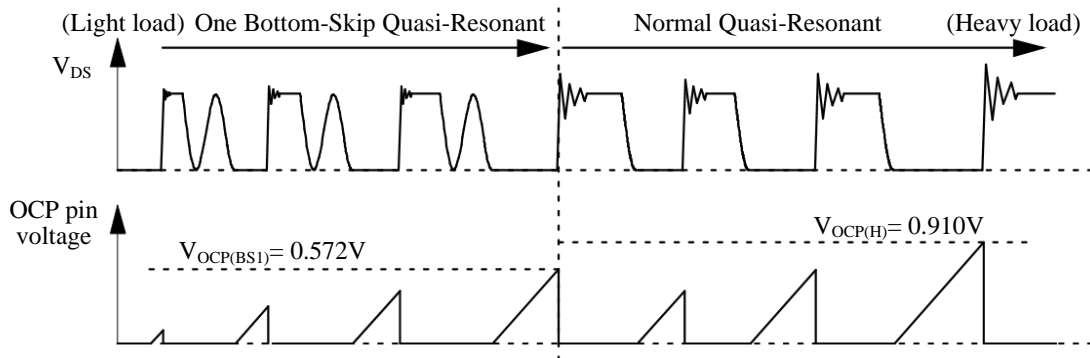
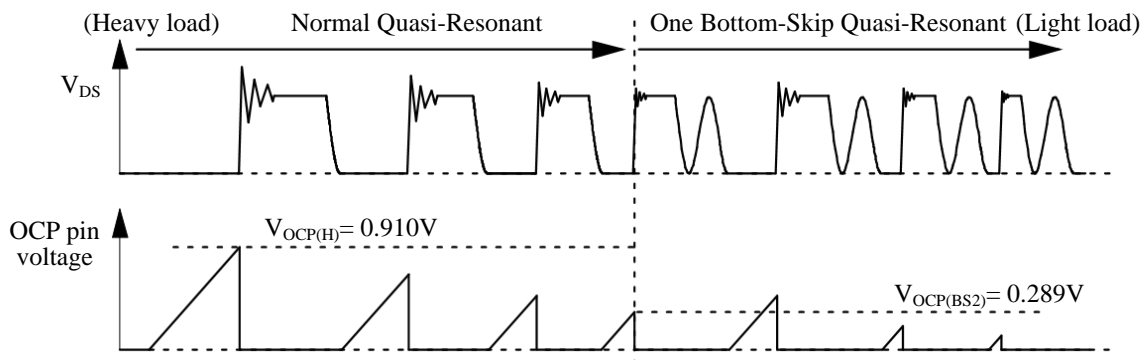

Figure 8-17. Operation State Transition Diagram from Light Load to Heavy Load Conditions
Figure 8-18. Operation State Transition Diagram from Heavy Load to Light Load Conditions
Figure 8-17 shows the operation state transition diagram of the output load from light load to heavy load. Figure 8-18 shows that from heavy load to light load. As these are state change diagrams without input compensation of OCP, the overcurrent detection threshold voltage shows just a $V_{OCP(H)} = 0.910\text{ V}$.
- The mode is changed from one bottom-skip quasi-resonant operation to normal quasi-resonant operation (Figure 8-17), when load is increased from one bottom-skip operation, the MOSFET peak drain current value increases, the on-time widens, and thus the peak value of the OCP pin voltage increases. When the load is increased further and the OCP pin voltage increases to $V_{OCP(BS1)}$, the mode is changed to normal quasi-resonant operation.
- The mode is changed from normal quasi-resonant operation to one bottom-skip quasi-resonant operation (Figure 8-18), when load is reduced from normal quasi-resonant operation, the MOSFET peak drain current value decreases, the on-time shortens, and thus the peak value of the OCP pin voltage decreases. When the load is reduced further and the OCP pin voltage decreases to $V_{OCP(BS2)}$, the mode is changed to one bottom-skip quasi-resonant operation. This suppresses the rise of the operation frequency.